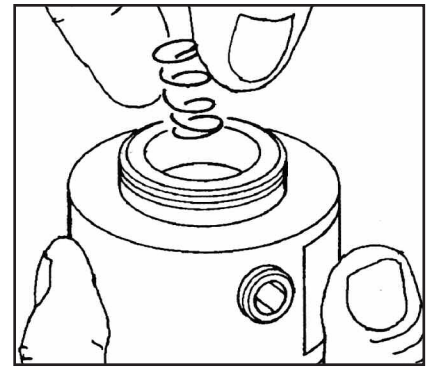

Figure 4
4. Lift out the spool spring. (Fig.4)